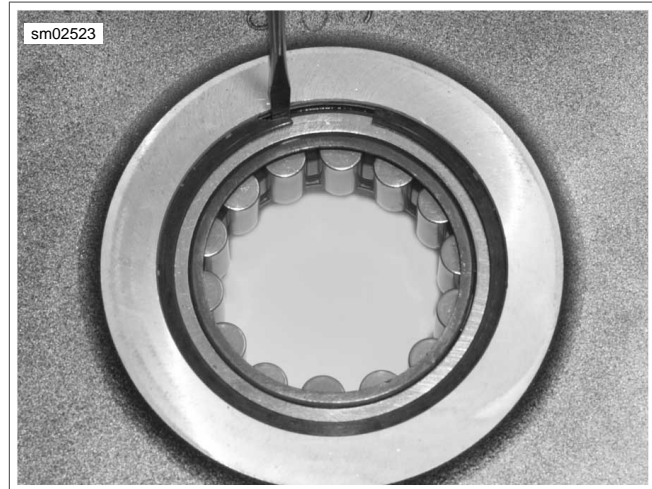
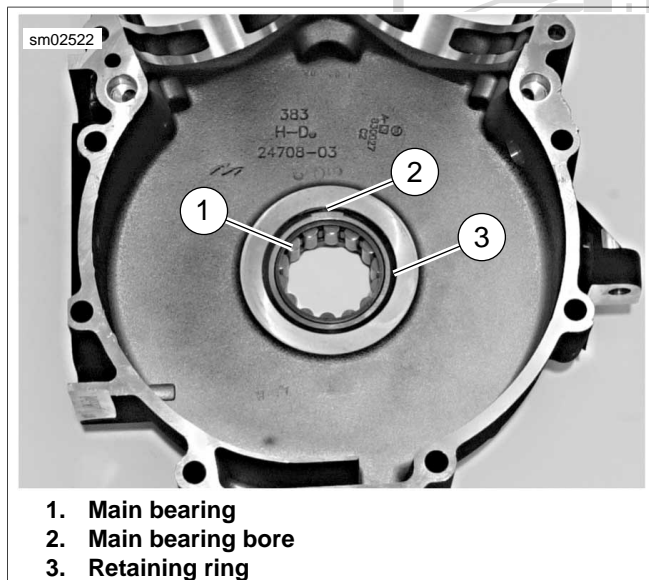

Figure 3-128. Removing Retaining Ring
Figure 3-127. Left Main Bearing Assembly
5. See Figure 3-127. The left main bearing (1) is press-fit into the main bearing bore (2) in the left crankcase and secured with a retaining ring (3) on the inboard side. See Figure 3-128. Using the tip of a flat blade screwdriver, carefully lift the edge of the retaining ring up out of its groove in the crankcase. Slide the screwdriver tip around the edge of the bearing, lifting the retaining ring up and out of the groove. Be careful not to damage the lip of the groove in the crankcase.